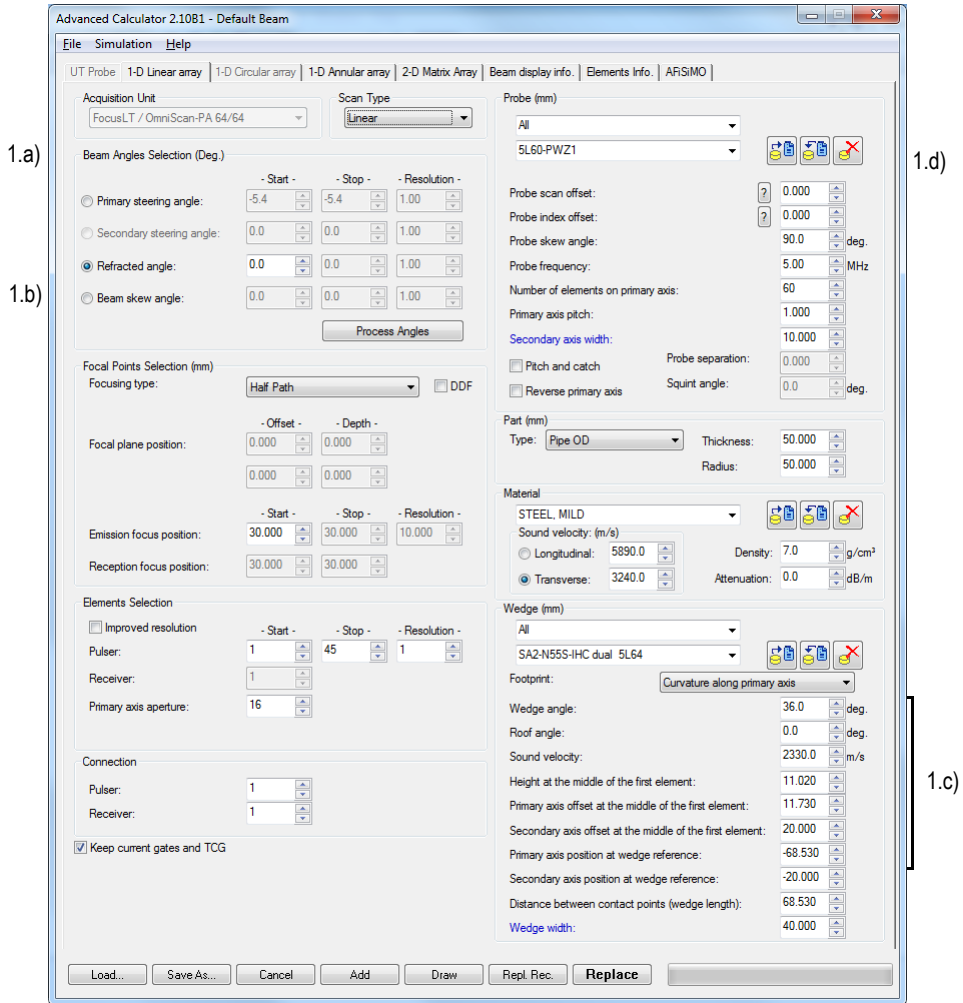

Figure 7-75 Parameters for wedge calibration
1. In the **1-D Linear array** tab of the Advanced Calculator (see Figure 7-75 on page 417), perform the following configuration steps: